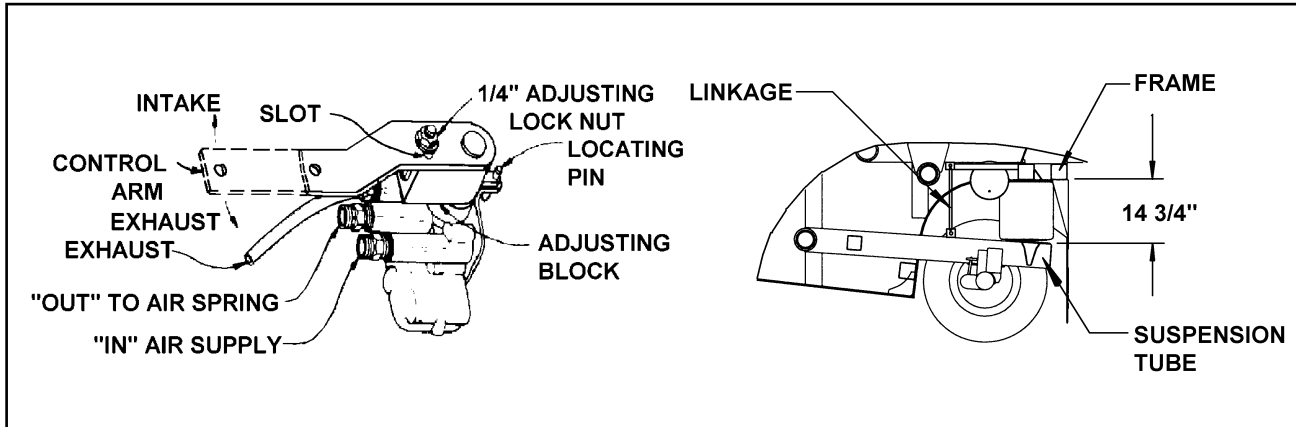

Figure 4-6 Ride Height Adjustment
4-9.2 Air Ride Height Adjustment. (See Figure 4-6 for parts identification).
- b. Disconnect linkage at the control arm and raise control arm to the "up" position, raising the trailer until a 14-3/4" block can be placed between suspension tube and frame (See Figure 4-6).
d. Loosen the 1/4" adjusting lock nut located on the adjusting block, allowing the control arm to move approximately 1 inch. Move the adjusting block until holes align, then insert locating pin. (See Figure 4-6).